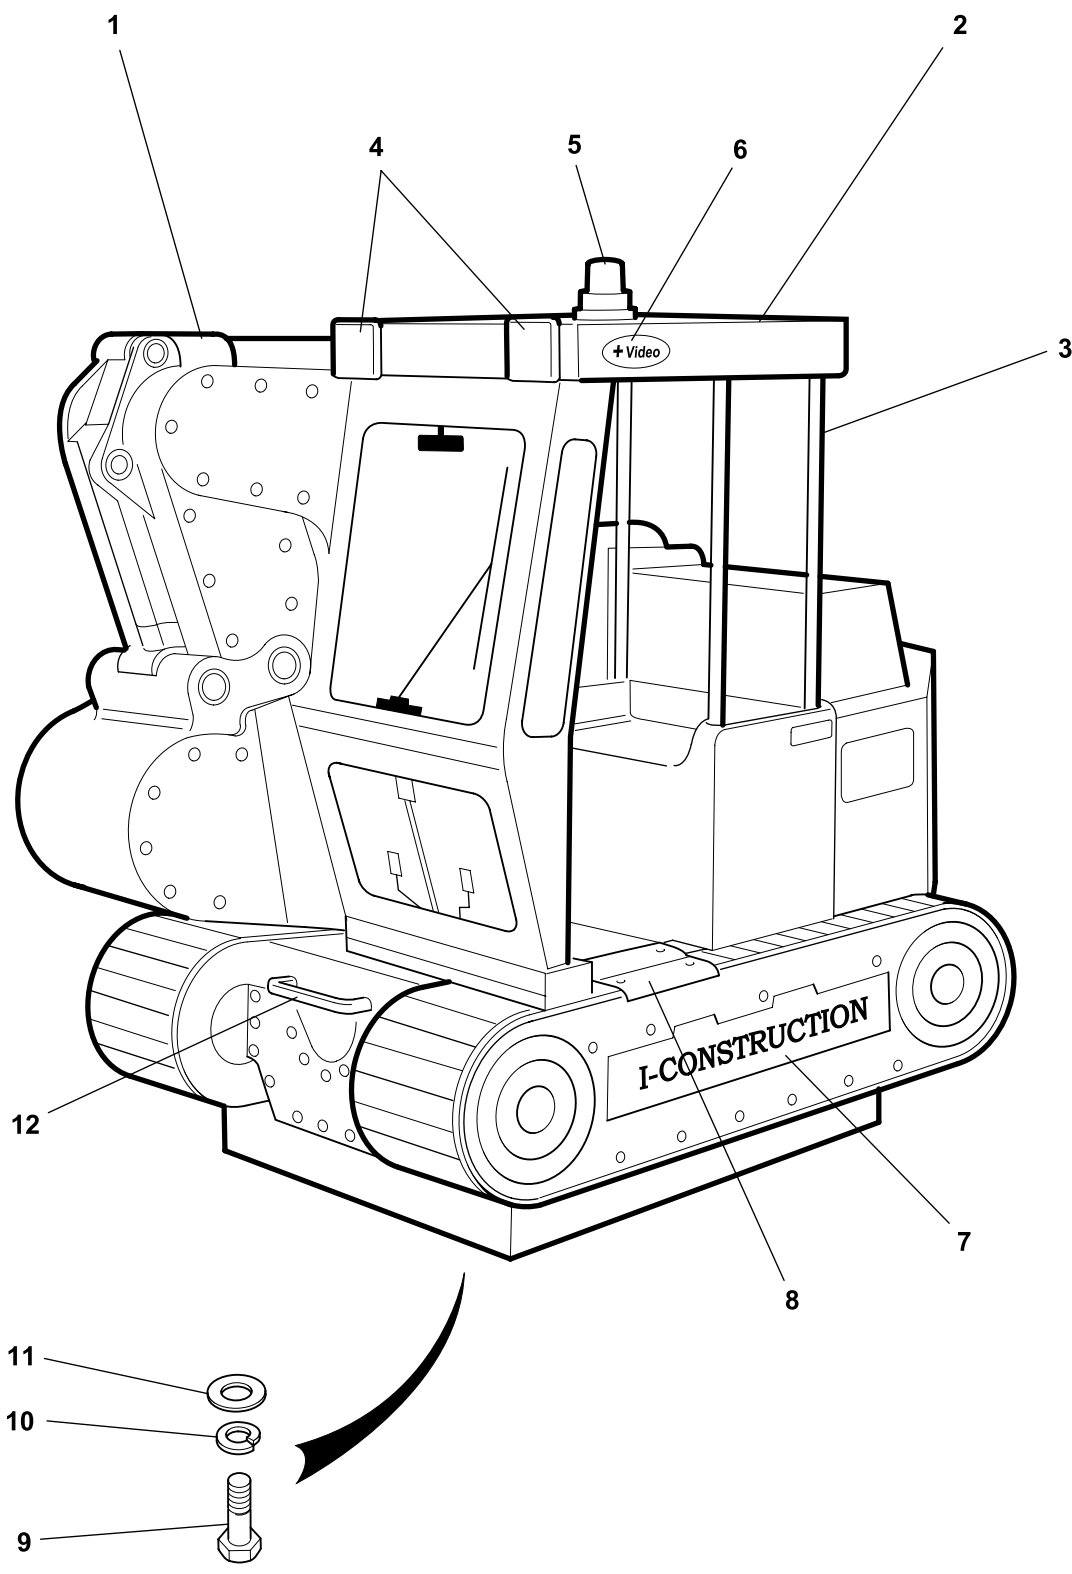

Fig 5 I-Con body shell assembly
Refer to Figure 5 in Spare Parts section for item numbers.
4.19.1 Remove the four bolts, (Fig 5, item 9) spring washers (Fig 5, item 10), and washers (Fig 5, item 11) situated under the body shell, which attach the body to the chassis.